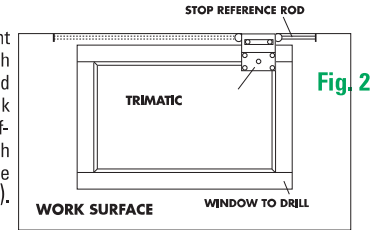

Fig. 2
Disassemble the support table (8) and position the equipment on a surface suitable for the type of work. Procure a rod with $\varnothing 10$ and length suitable for the job to be carried out and insert it in the hole (9). Position the reference stop and lock the whole assembly with the knobs (3). Fix one or more reference blocks on the work surface depending on the length of the door to be drilled. Adjust the screws (7) and (4) (See photo 1) according to the distances "A" and "B" (see Fig. 1). Finally, position the door to be drilled (see Fig. 2)